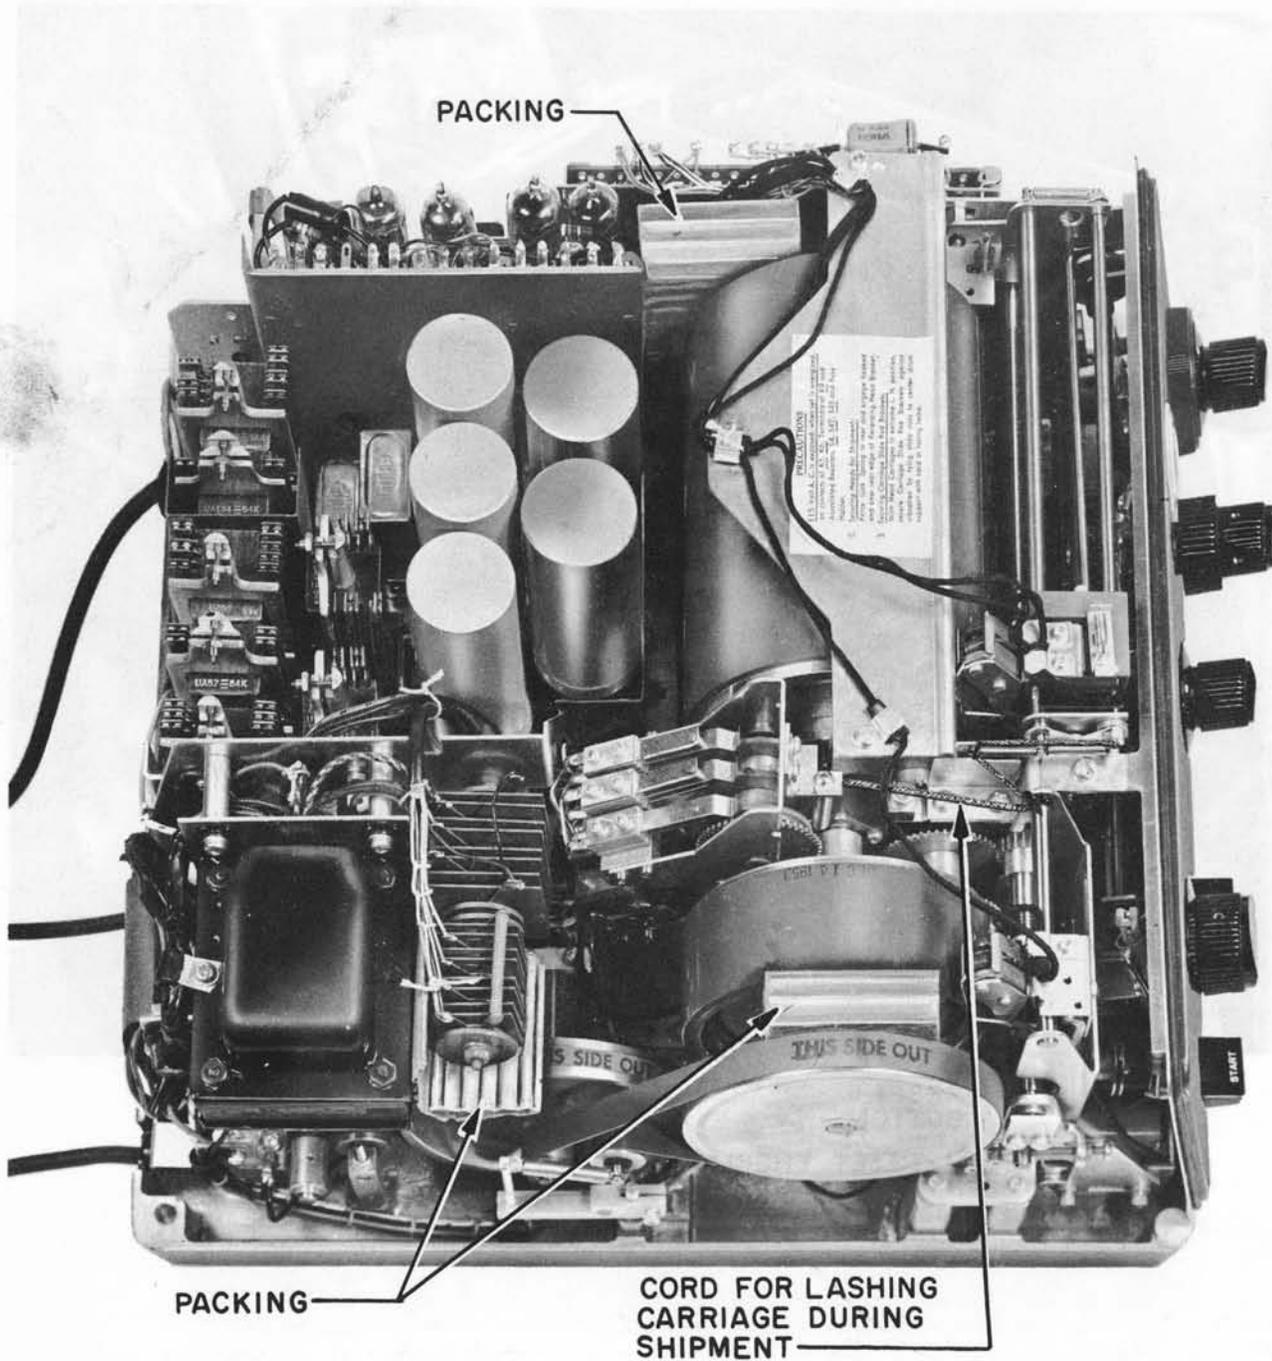

Fig. 12 — Packing Material and Lashing
1.17 Fig. 12 identifies the packing and cording to be removed at the time of installation.